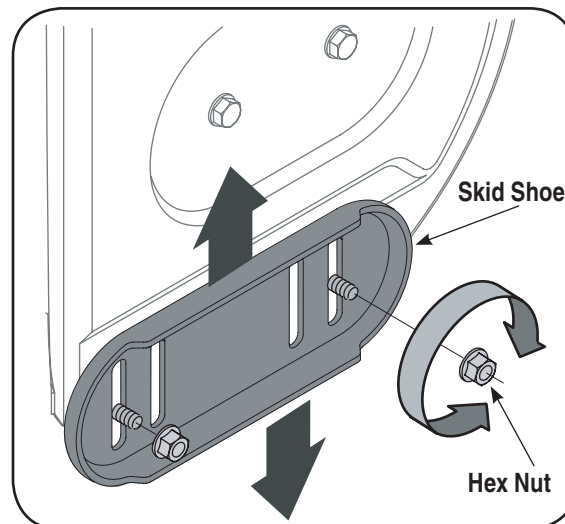

Figure 11-3
1. Loosen, but do NOT remove, the three hex nuts which fasten the skid shoe to the auger housing. See Fig. 11-3.